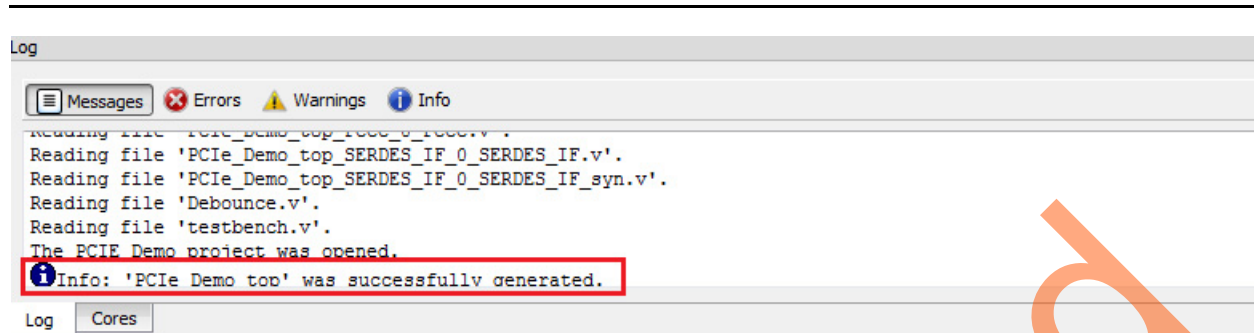

Figure 34 • Log Window
35. The message “'PCIe_Demo_top' was generated” is displayed in the Libero SoC Log window if the design was generated without any errors. The Log window is displayed as shown in Figure 34 on successful component generation.